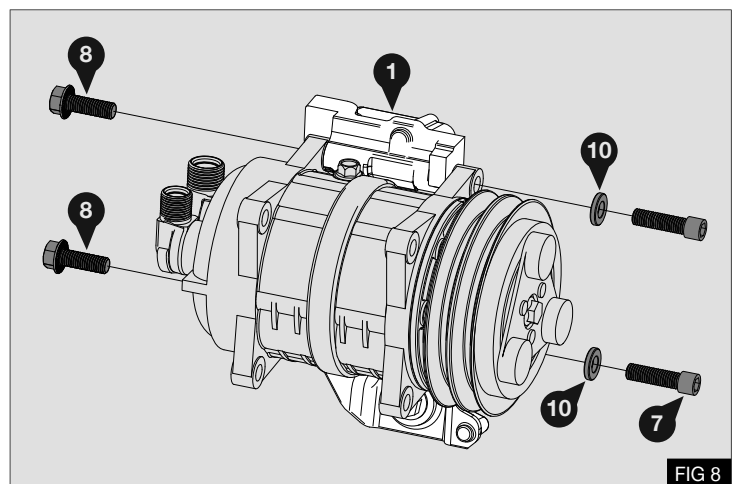

FIG 8
2. Install the compressor to the mount bracket (1) as shown opposite using bolts (7) with washers (10) at the front of the compressor. Secure the rear of the compressor using bolts (8) - Fig 8
**Note:** The lower position (K) also used for mounting the belt tensioner assembly (2) - Fig 8